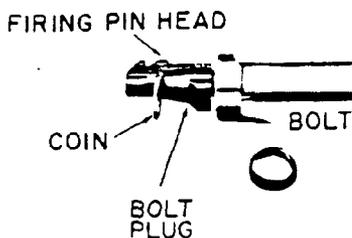

Fig. 4
**TO DISASSEMBLE BOLT PARTS** — Remove bolt from gun. Pull firing pin head back until coin or similar piece can be inserted (Fig. 4). Then hold bolt handle and turn bolt plug at rear until entire firing pin assembly can be unscrewed and removed from bolt assembly. Reassemble in reverse order.